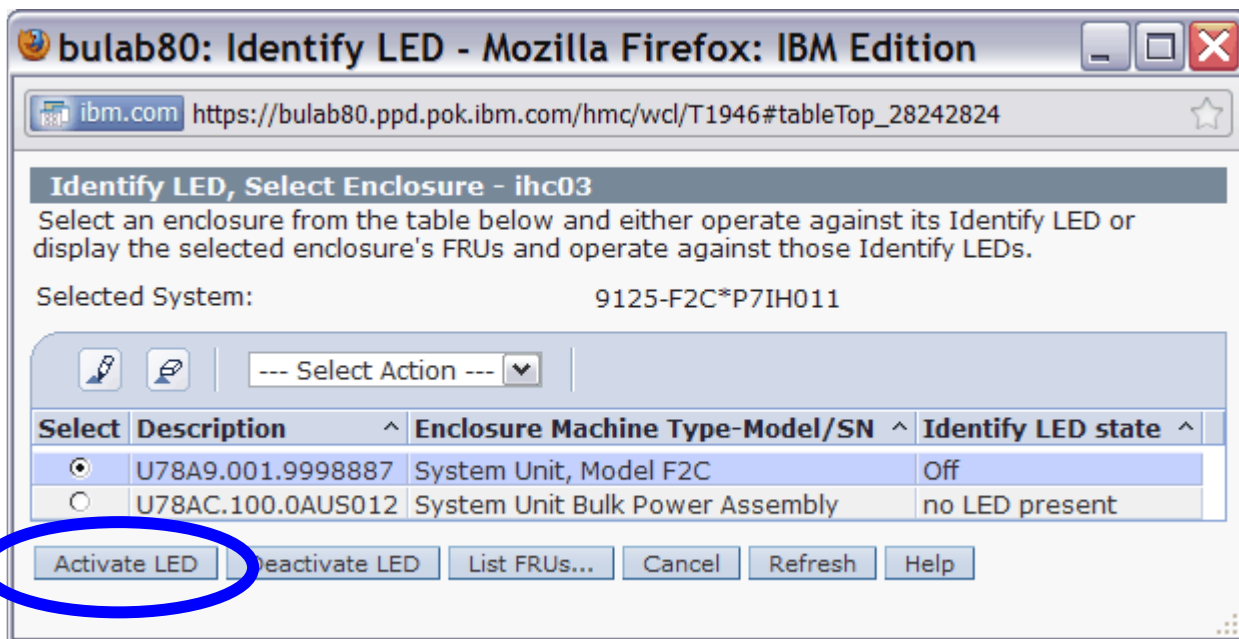

Figure 3 System Unit, Model F2C Selection – Activate LED
STEP 5 In the window titled **Identify LED, Select Enclosure select System Unit, Model F2C** then *click* the **Activate LED** button (see Figure 3). This will cause the CEC ID LED to flash, as well as the UEPO Panel of the frame.